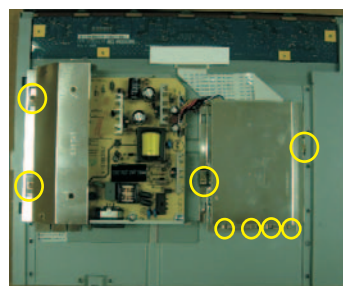

Fig.11
- Remove the eight screws as shown in Fig.11